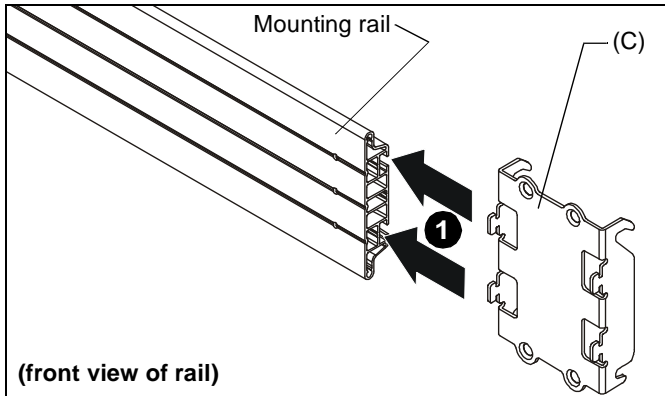

Figure 10
- Slide height adjust plates (C) into open end of mounting rail. (See Figure 10)